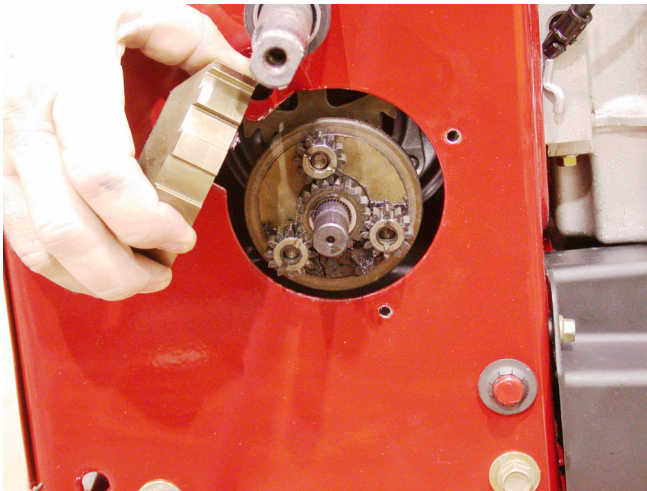

Figure 12.9
- 12.9. Carefully remove the ring gear from the planetary gear set. See Figure 12.9.